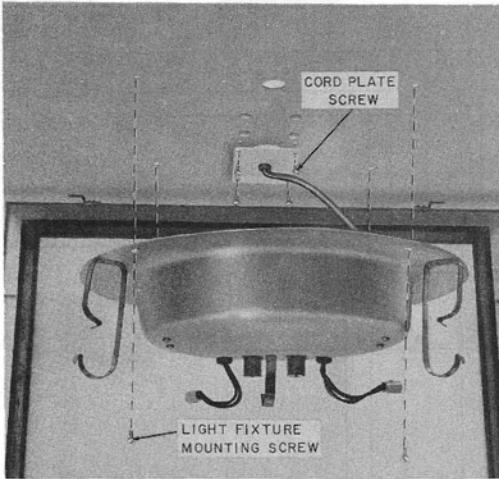

Fig. 9—Removal of B-185379 Light Fixture
- (d) Loosen the four light fixture mounting screws (Fig. 9) and carefully lower the light fixture and place it in dome.
(e) Remove and retain the cord plate screws (Fig. 9) and dispose of the light fixture in accordance with local regulations.